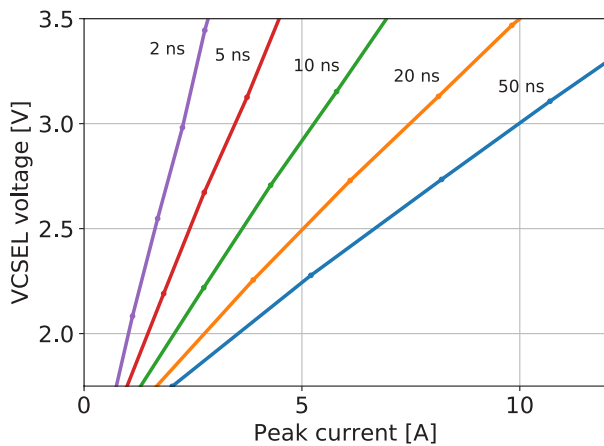

Fig. 8: Peak current of VCSEL driving pulses depending on the driving voltage and pulse duration for a fixed duty cycle of 1%.
An essential characterisation for laser diodes is to measure the so-called LIV curves. This means the relation how the optical power (L) depends on driving current (I) and voltage (V). These dependencies make it possible to derive many key characteristics of the DUT, like threshold current or slope efficiency. Figure 7 shows exemplary the LI dependence of a VCSEL measured with 100 ns driving pulses. This behavior is largely independent of the pulse length. In contrast, the IV characteristic depends for nanosecond pulses strongly on the exact pulse duration and approaches only a steady state for longer pulses (Fig. 8). This underlines the necessity of characterizing VCSELs precisely with the nanosecond pulse pattern to be implemented in the future application. Further investigations have shown that for fixed pulse duration, the observed IV-characteristic is in a first approximation independent of the duty cycle.